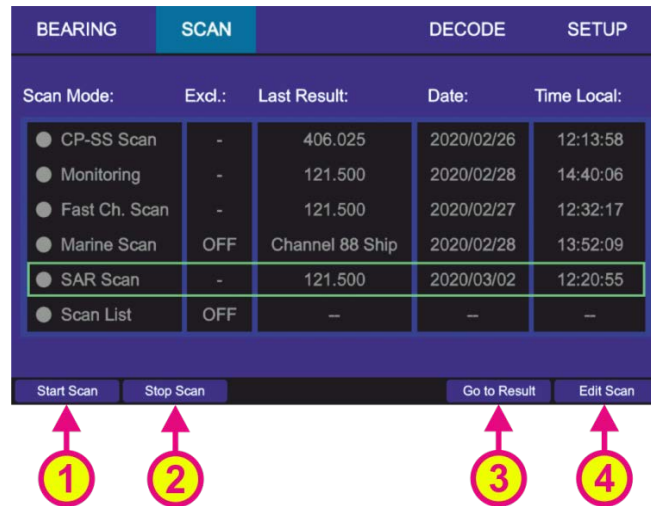
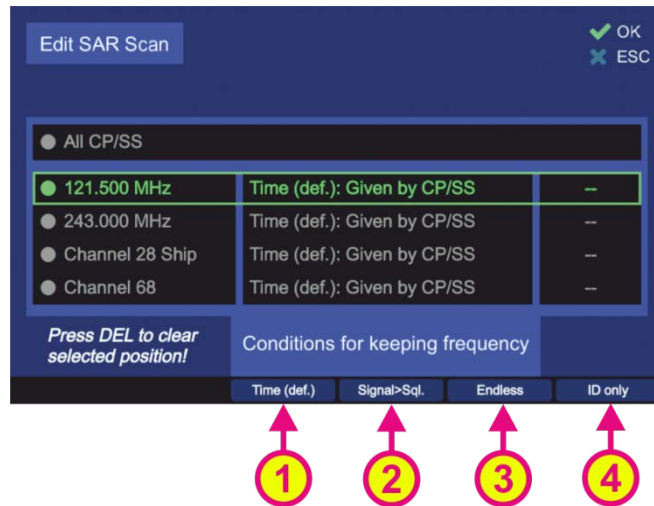

Fig. 49 Selecting SAR scan
Fig. 51 SAR scan. Edit scan settings
- To start the "SAR scan" mode select the corresponding line on the "Scan" page and press "OK" or the hotkey "Start Scan" (s. Fig. 49, position 1).
- Pressing the hotkey “Stop Scan” (s. Fig. 49, position 2) will terminate the current scan mode and change to the bearing of the frequency, that was set before the scan mode has been activated.
- Pressing the hotkey “Go to Result” (s. Fig. 49, position 3) during the scan mode is currently running, will terminate the scan mode, adopt the frequency which was found in this scan last time and change to the “Bearing” page. Pressing the hotkey “Go to Result” if the scan mode is not activated, will lead to the “Bearing” page adopting the last result as the bearing frequency. This hotkey appears only, if there is a result for this scan.
- Pressing the hotkey “Edit Scan” (s. Fig. 49, position 4) opens the dialog for changing the SAR scan settings (s. Fig. 51).
The hotkey “Edit Freq.” opens the input dialog that allows the modification of the currently marked frequency (s. Fig. 32 and its description in 6.2.2.4). This hotkey only appears for the frequencies that are configurable (the last two displayed frequencies: Channel 28 Ship and Channel 68, s. Fig. 51).
- Pressing the hotkey „Time (def.)“ (s. Fig. 51, position 1) will set the hold time (duration of staying in the scanning on this particular frequency) to the value that is given by the CP-SS setting (30/N or 45/N), s. 6.2.5.1.
- The hotkey “Signal>Sql.” defines the behavior of the scan algorithm to “signal level > squelch level” (s. Fig. 51, position 2). If this hotkey is pressed, the scan algorithm will stay on the active frequency until the signal level value becomes higher than the squelch value.
- The hotkey “Endless” (s. Fig. 51, position 3) defines the behavior of the scan algorithm when an active frequency has been found.
- Pressing the hotkey “ID only” (s. Fig. 51, position 4) activates or deactivates the feature “ID Only” (s. 6.2.2.3):